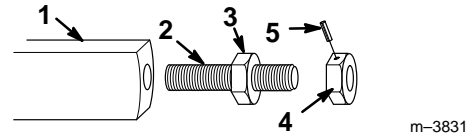

Figure 5
5. On the end of the adjustor with the flush adjustment nut (Fig. 5), make a mark across the face of the nut and adjustor. This will enable you to determine the exact position the nut should be in when you install it later.
6. Remove the roll pin from the adjustment nut, and remove the nut from the threaded adjustor (Fig. 5).
7. Thread the long end of the adjustor into the opening in the end of the trencher boom until the welded nut on the adjustor contacts the end of the boom (Fig. 5).